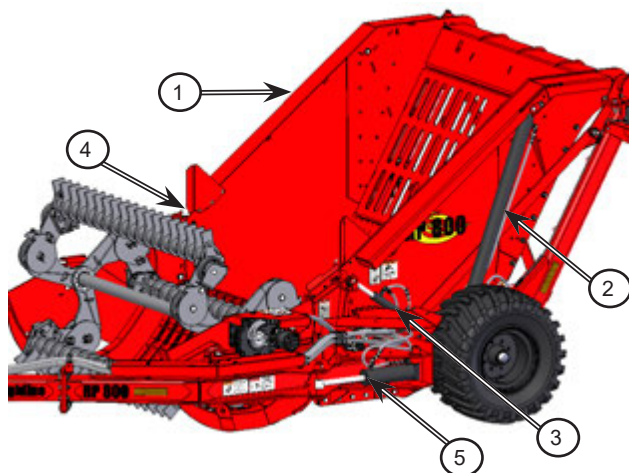

Figure 4.24: Check the hydraulic cylinders
- b. Visually inspect all the hydraulic cylinders (1-5 in Figure 4.24).